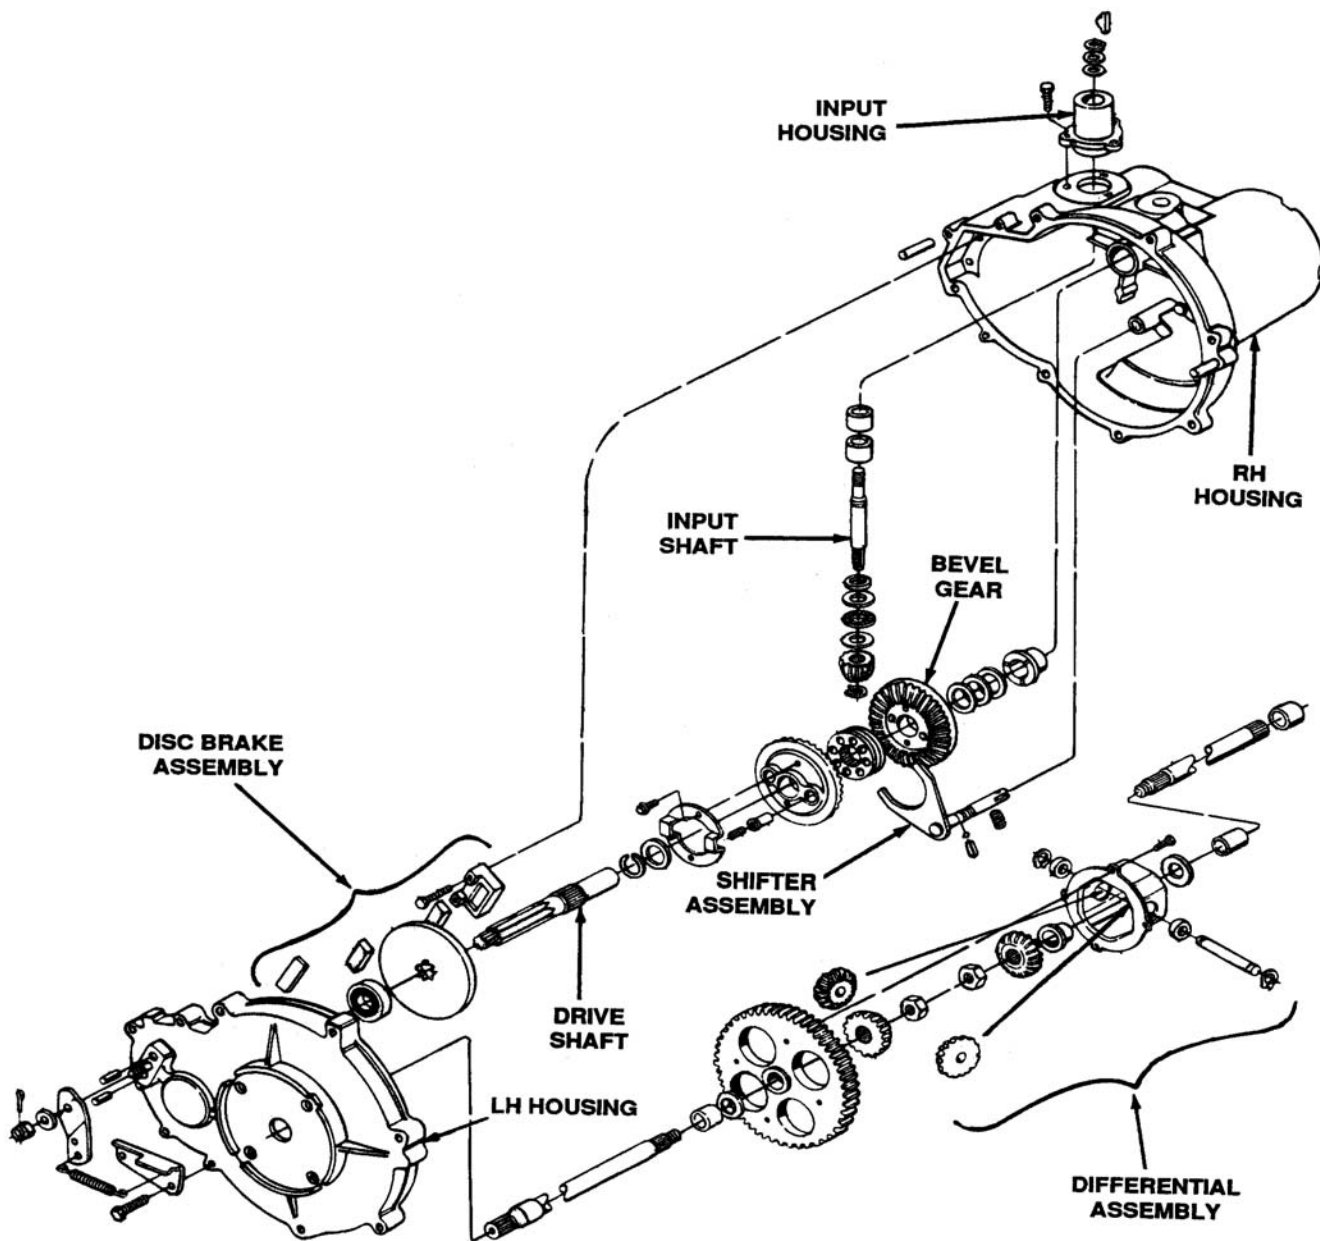

Figure 5-1. Heavy Duty Single Speed Transaxle
1. The heavy duty single speed transaxle incorporates features that you may recognize found in the model no. 618-002 single speed transaxle with similarity of the differential assembly. This unit also uses the positive spring pin type clutch collar as is used in model no. 618-0009 two speed transaxle. See Figure 5-1.